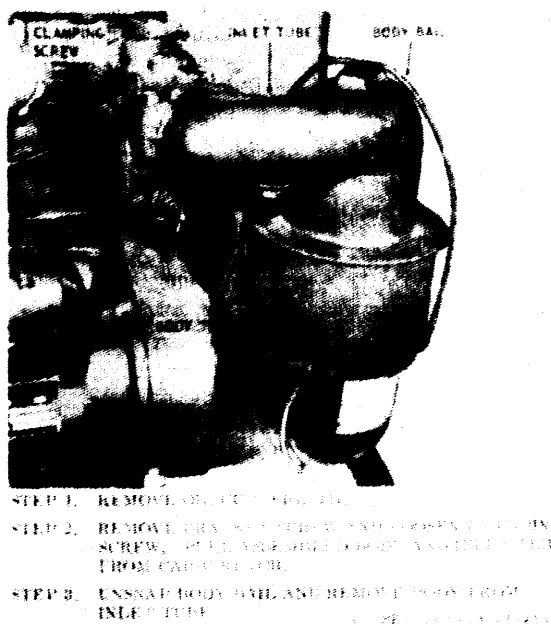

Figure 15. Air cleaner, removal and installation.
a. *Removal.* Refer to figure 15 and remove air cleaner. Remove oil cup and baffle as directed in paragraph 28f.
- (1) Clean all parts with an approved cleaning solvent. Flush solvent
c. Installation. Refer to figure 15 and install the air cleaner and bracket.